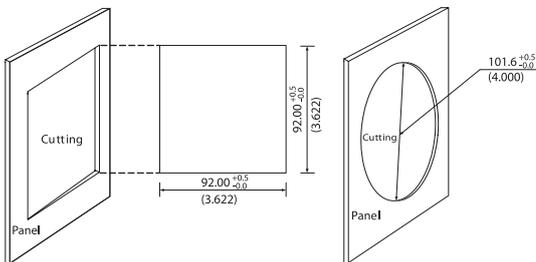

Figure 2.3: Panel cutting
1. Cut a square hole or round hole on the panel of the switch gear. The cutting size is shown in fig 2.3. – unit: mm (inches)